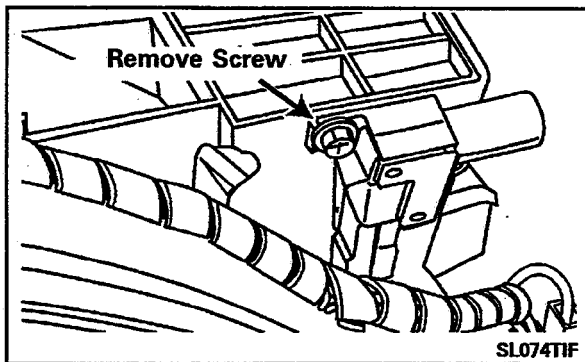

Figure 2-61
4. Remove the two screws securing the switch to the outer tub assembly (*Figure 2-61*).